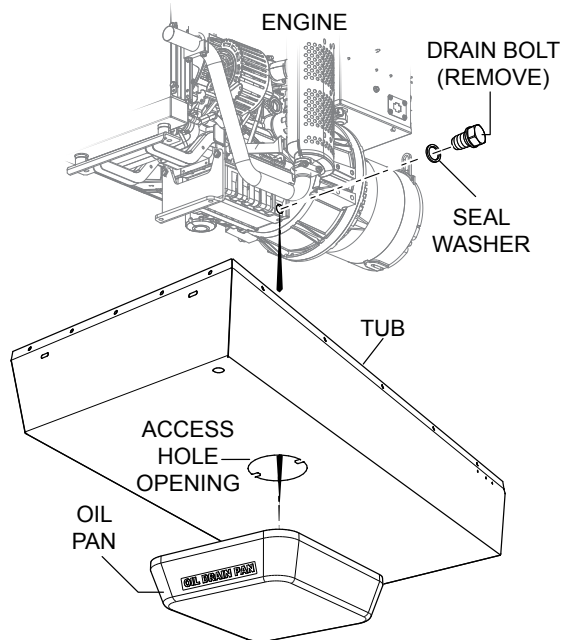

Figure 30. Draining Engine Oil
4. Place a container (Figure 30) directly under the access cover hole opening.
5. Next, remove the drain bolt and seal washer (Figure 30) on the engine so that the oil can begin to drain into the container. Reposition the container if necessary.